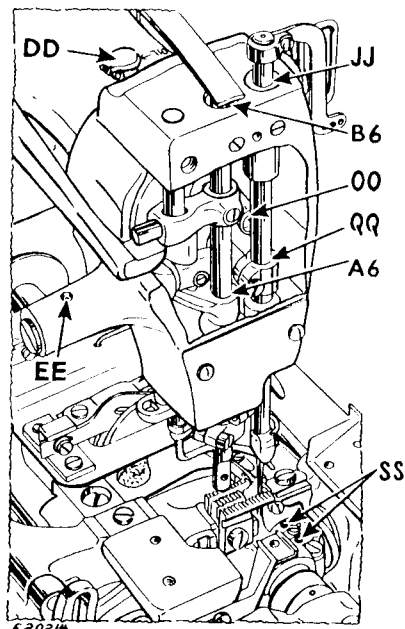

Fig. 4. End View (Face Plate Removed to Show Oiling Points)
6. Apply oil at **OO**, Fig. 4, for the needle bar connecting stud, also apply a drop or two of oil at **B6** and **A6**, Fig. 4 where the presser bar
passes through its bushings, also at **JJ** and **QQ**, Fig. 4, where the needle bar passes through its bushings.
4. Remove the face plate and apply oil to the points shown in Fig. 4.